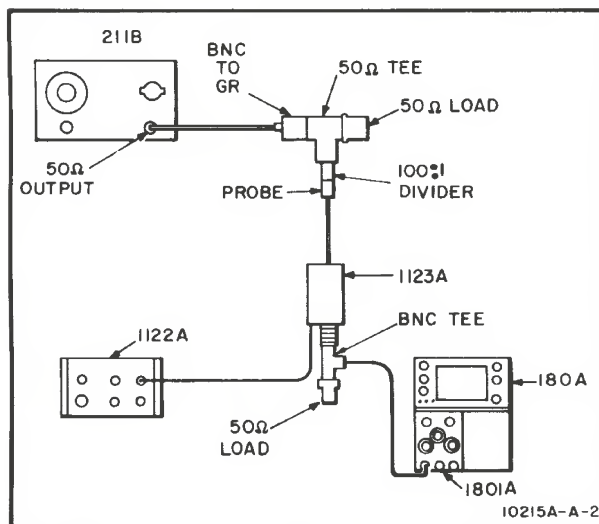

Figure 3. Test Set-up
- b. Make test set-up as shown in Figure 3.
- a. Use test set-up as shown in Figure 3.